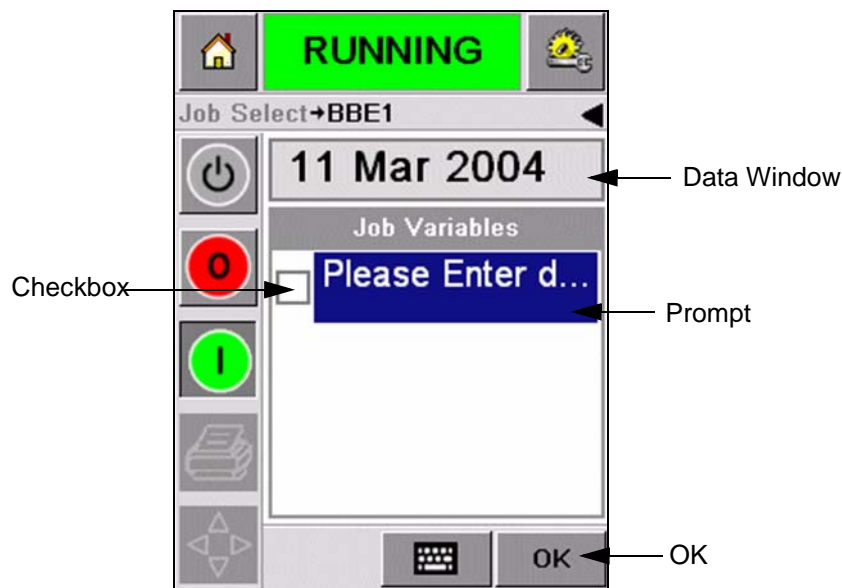

Figure 5-7: Job Variables
The check box at the side of variable fields indicates the fields that are entered and fields that are not entered (Figure 5-7 on page 5-6).
To select the Job variable you require to change, touch the related prompt. This variable gets highlighted and display the default data in the data window (Figure 5-7).
The Figure 5-7 shows the Job Variables for the job **BBE1** and there is a DATE field variable only (for use as a Best Before End Date).
- 1 If the default date displayed in the data window (11 March 2004) is correct, touch the *OK* icon and this date is printed (Figure 5-7).